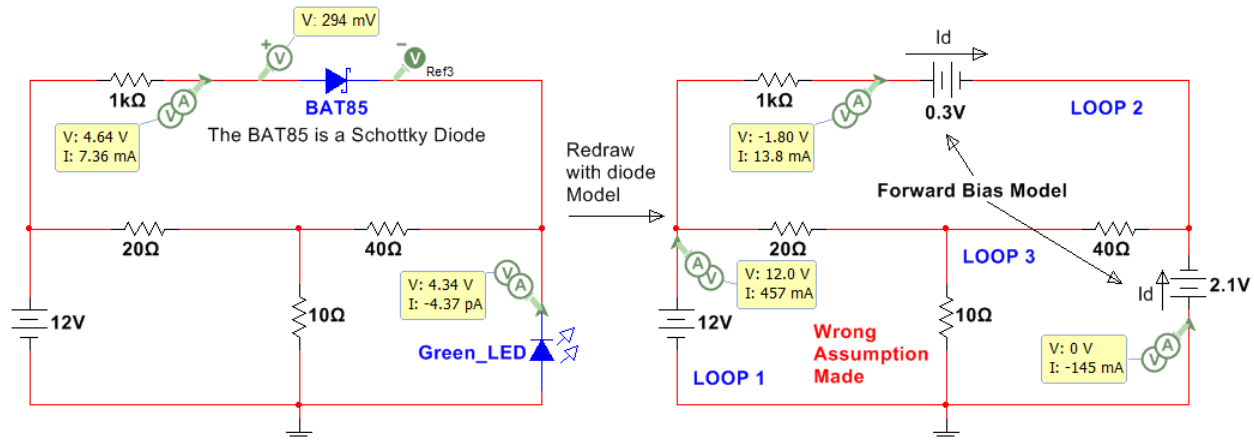

Figure 6.9: Circuit for Example 6.5 with the **wrong assumptions made**.
Example 6.5) Follow the DC Diode Analysis process to solve the following left circuit in Figure 6.9.
Step 1) Assume **Both diodes are forward biased** (1 of 4 possibilities). Model is shown in Figure 6.9 (Right).
Assuming currents are clockwise, solving this matrix yields $\rightarrow I_1 = 457.4 \text{ mA}$, $I_2 = 13.8 \text{ mA}$, $I_3 = 144.5 \text{ mA}$. (These values are verified in Multisim in the right circuit of Figure 6.9)